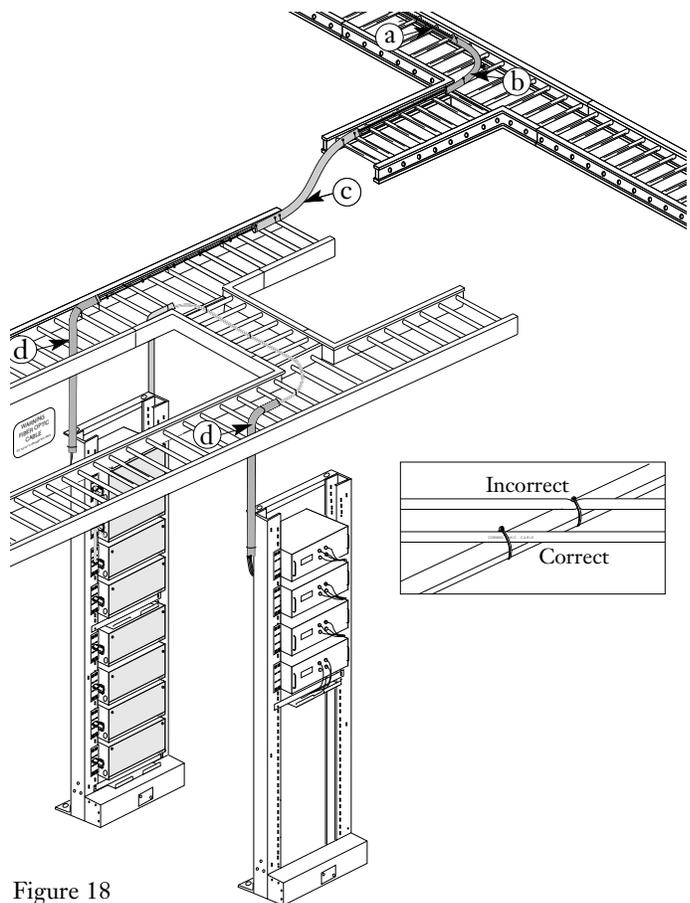

Figure 18
7.27 Use the following guidelines when installing cable in cable trays or ladder racks (Figure 18):
- Use cable ties (Figure 18, a) to secure the cable to the cable tray or rack (or to larger, stationary cables when present), every 60 -90 cm (24 - 36 in.).
Caution: Do NOT tighten the cable ties to the point they deform the shape of the cable (Figure 18, inset).